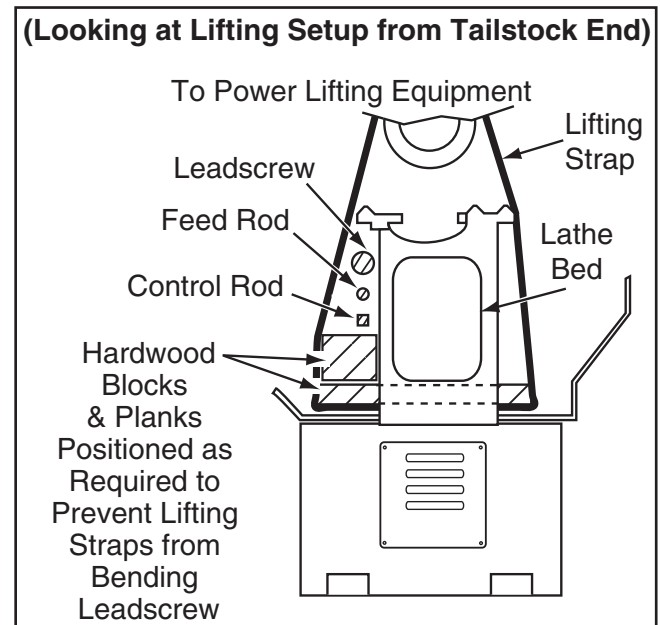

Figure 15. Lifting setup to keep straps from bending leadscrew or rods.
5. Position hardwood blocks under each end of the bed as shown in **Figure 15**. This will keep the lifting straps away from the leadscrew, feed rod, and spindle rod to prevent bending them during lifting.